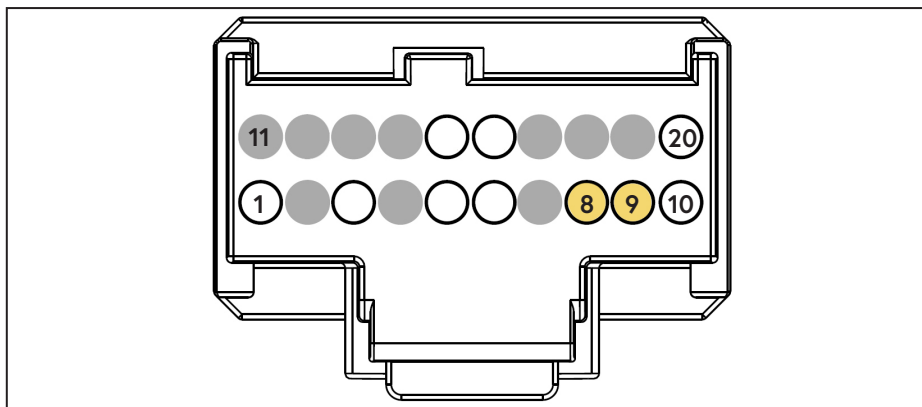

Figure 45 — PAM connector
- ☐ Using the supplied Posi-Taps (see page 35), connect the blue wire from the throttle control to the wire at pin 9 (blue wire at time of writing) of the PAM connector (Figure 45).
- ☐ Using the supplied Posi-Taps, connect the grey wire from the throttle control to the wire at pin 8 (white wire at time of writing) of the PAM connector (Figure 45)